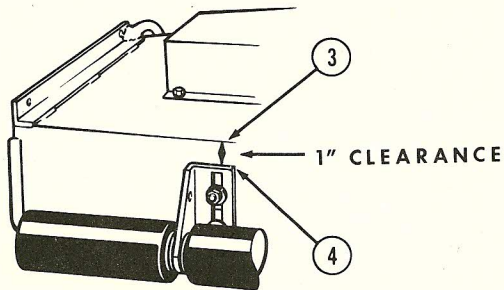

Figure 6
MOWER ADJUSTMENTS (Refer to Figures 6, 7 and 8)
1. The rear rollers should be adjusted leaving 1 inch between the top of the mower deck (3) and the top of the roller bracket (4), Figure 6.